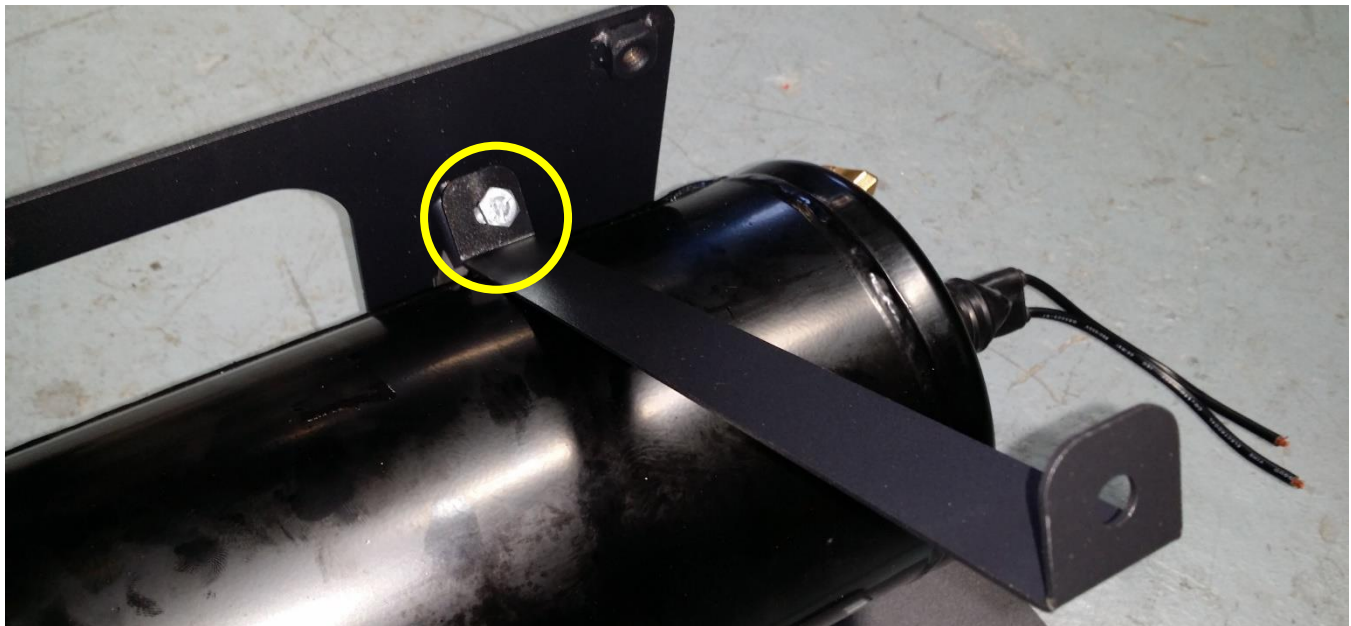

Figure 6 - JK-202 Attached to JK-201
9.3.2. Temporarily place Air Tank inside Tank Bracket, then attach both JK-202 Air Tank Straps to upper holes on JK-201, using hardware #1 (2), #11 (2) & #18 (2), as shown in Figure 6 below.